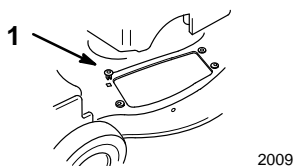

Figure 33
5. Install four grommets supplied with the grass catcher into the four square holes in the mower (Fig. 33).